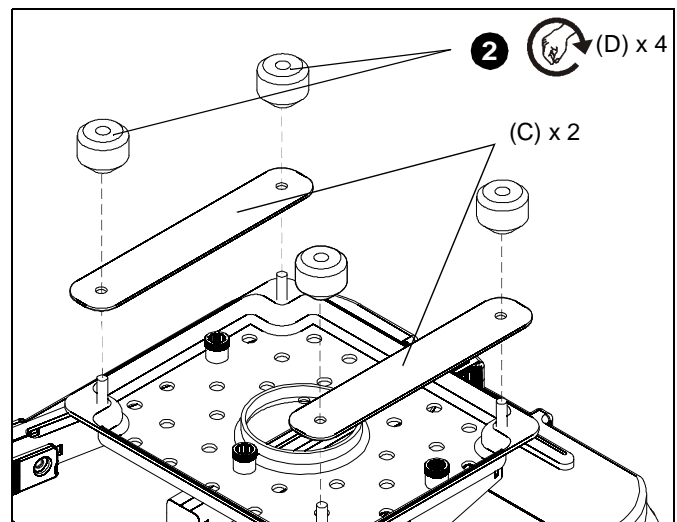

Figure 10
1. Install security brackets (C) over screws on SLBU main plate. (See Figure 10)
2. Partially install thumb nuts (D) onto SLBU main plate screws. (See Figure 10)